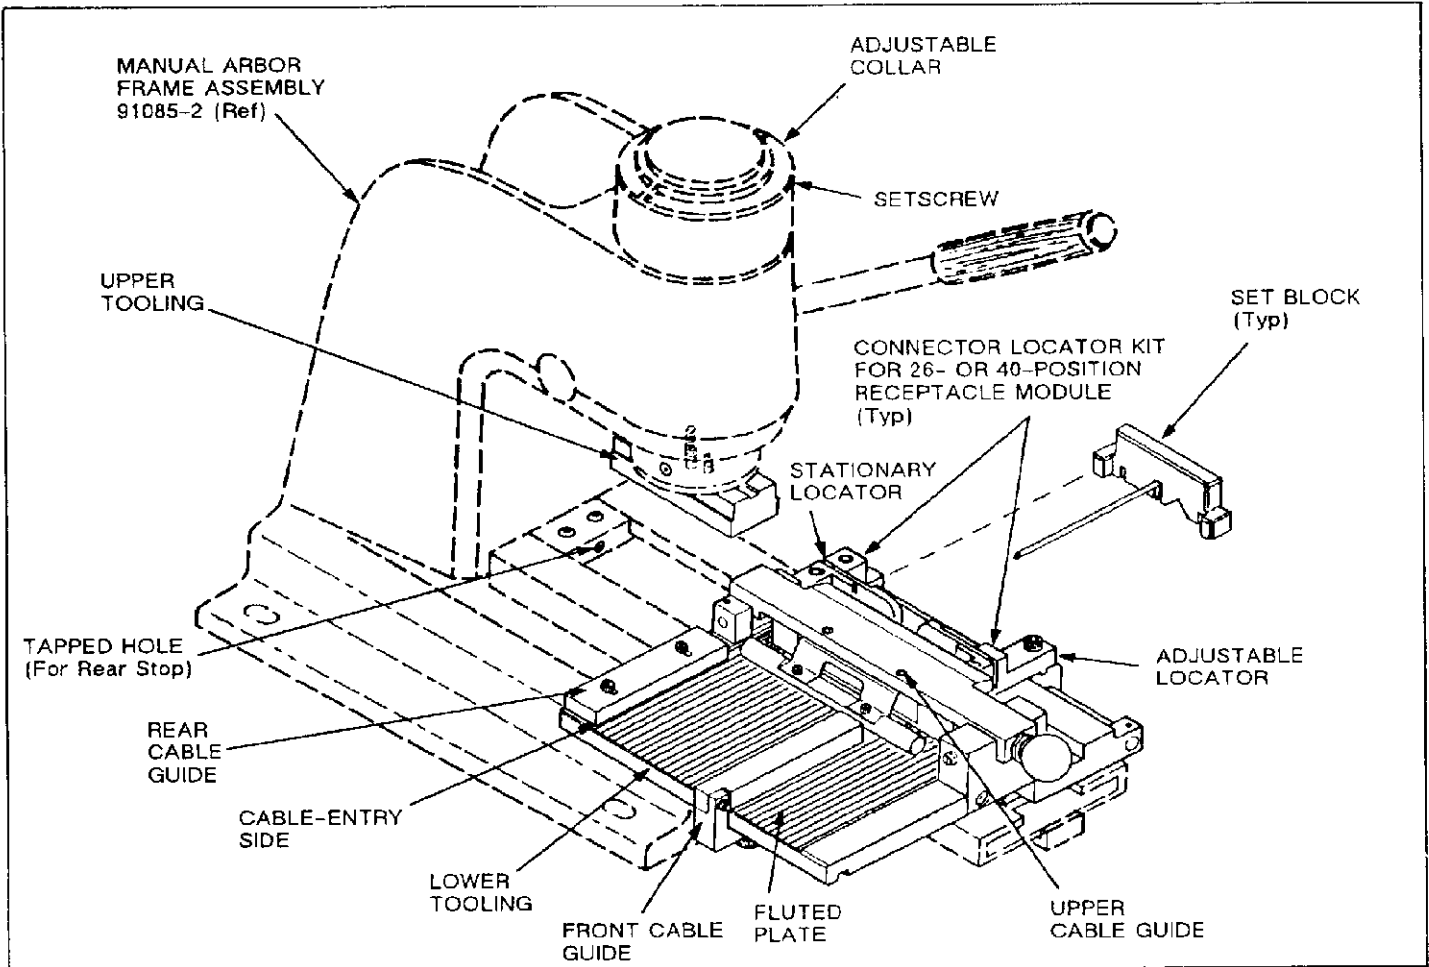

Fig. 1
This instruction sheet (IS) covers the application and use of AMP Tooling Assembly 128000-1 shown in Figure 1. The assembly is used to terminate round ribbon cable to AMP Cammed Rectangular (CR) 26- and 40-position **receptacle** modules. Figure 1 shows the tooling assembly installed in AMP Manual Applicator Frame Assembly 91085-2, which must be ordered separately.
To install upper and lower tooling subassemblies, refer to Figure 1 and IS 7777 and proceed as follows:
1. Position upper tooling assembly on the two ram tool mount pins. Secure the assembly by tightening the socket head setscrew in the upper tooling with a 1/16-in. hex wrench. See Figure 1.
3. Slide lower tooling subassembly away from frame and attach rear stop with locknut into tapped hole of slide base. Refer to Figure 1.